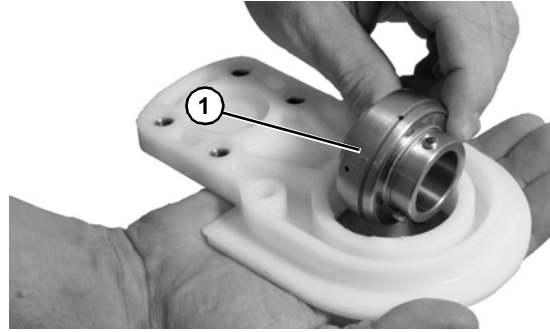

Figure 65
- Twist the bearing out (**Figure 65, item 1**).